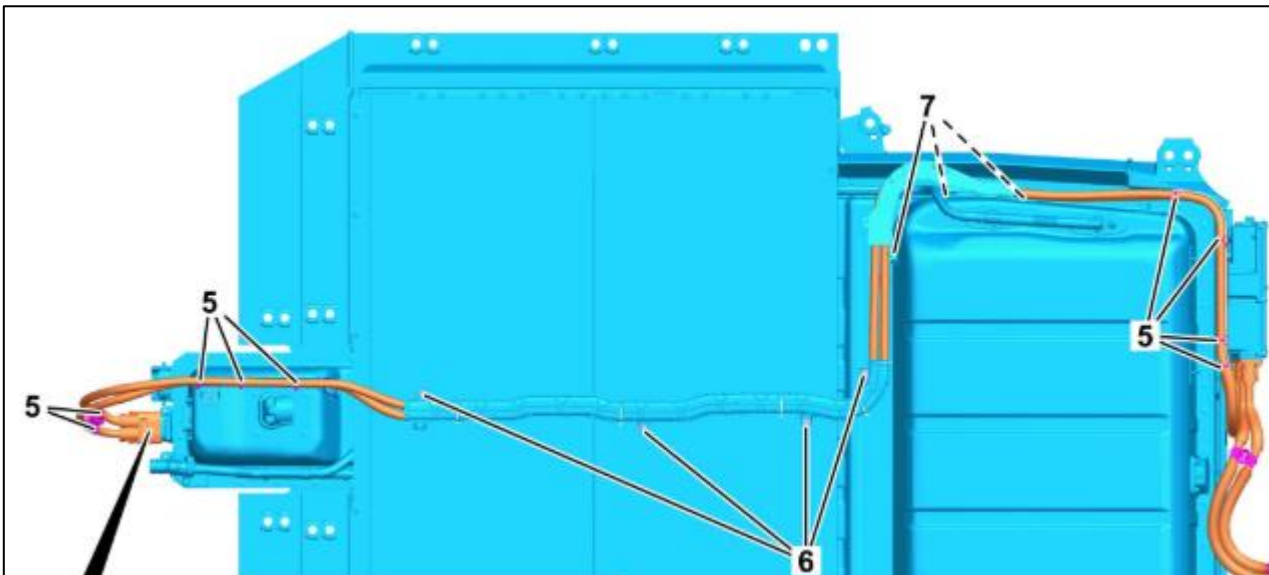

Figure 8
- Remove nuts (Figure 8, 7) and screws (Figure 8, 6).